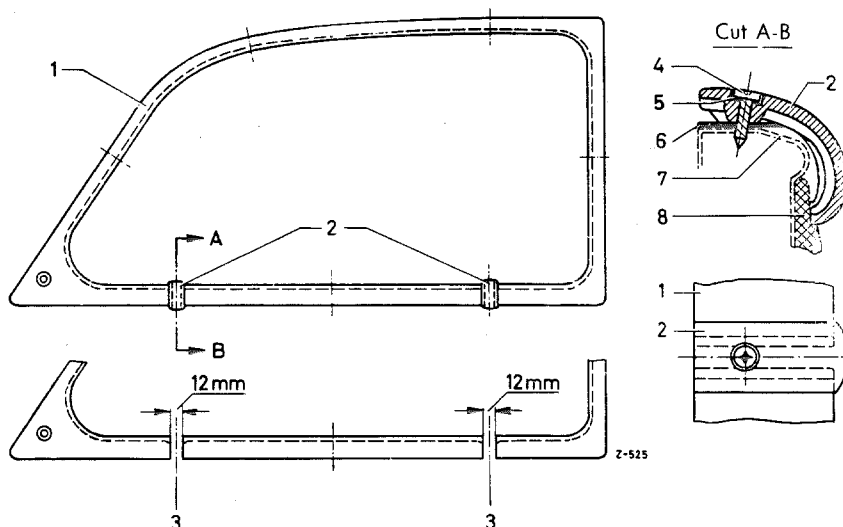

Fig. 72—3/2
These window reveal moldings (1) are divided in two places at the lower horizontal part and are covered at the butt joints (3) by butt straps (2) (Fig. 72—3/2).